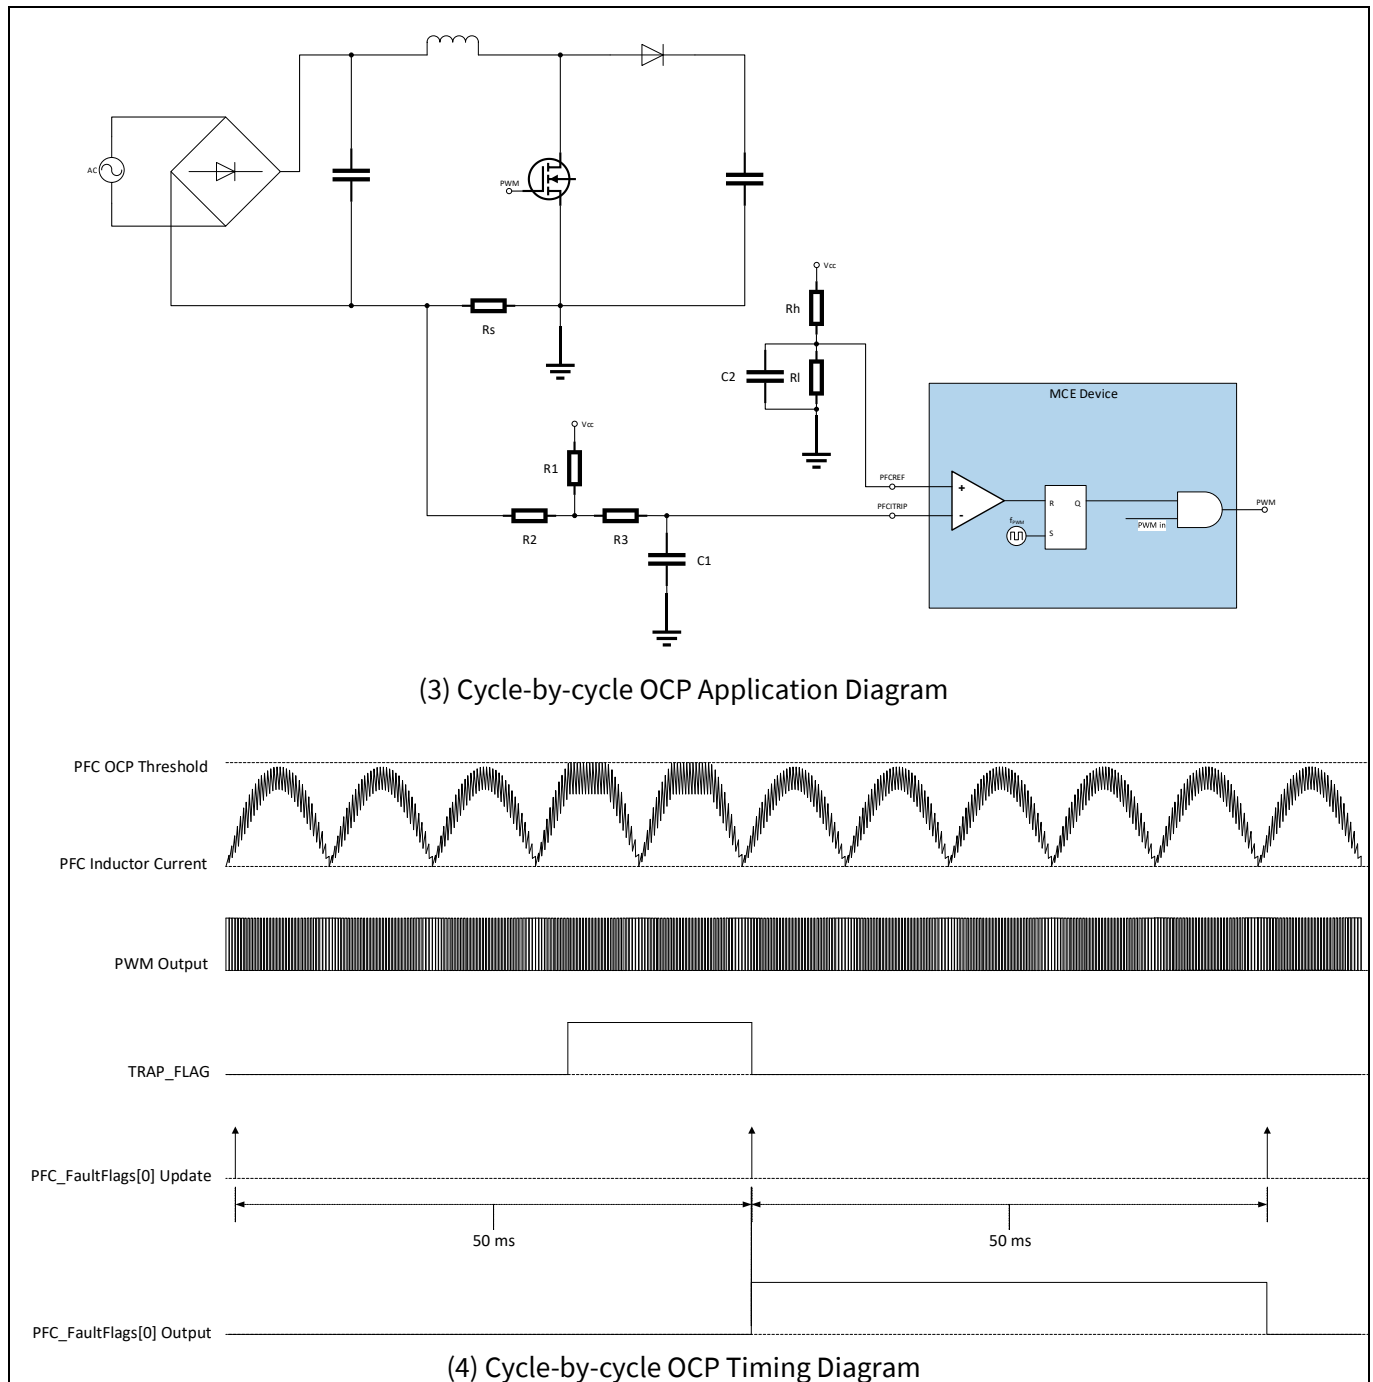

Figure 57 PFC Gatekill setup
As shown in the Figure 57 (2) and Figure 57 (4), the over-current tripping mechanism makes use of an internal comparator. The tripping level can be programmed externally using a voltage divider driven by a reference voltage whose output is connected to PFCREF pin. The calculation of OCP tripping level is shown below.
For latch-off OCP option as shown in Figure 57 (1), an internal configurable digital filter is available to avoid any high frequency noise. The customer can configure the gatekill response time by adjusting the value of
The filter timer is configured to be level triggered by the internal comparator output. As shown in Figure 57 (2), when the inductor current goes higher than the specified PFC OCP threshold, the internal comparator output goes logic HIGH. As a result, the timer starts counting. If the comparator output voltage level changes down to logic zero, then the timer gets reset. If the over-current condition is persistent until the timer counts to 'PFC_GateKillTime', then the PWM outputs go into the programmed passive levels. This fault cannot be masked, so that it will be reflected in 'PFC_SwFaults' PFC variable, and the PFC state machine will shift to FAULT state, causing the PFC to stop running.
For cycle-by-cycle OCP option as shown in Figure 57 (3) and Figure 57 (4), when the inductor current goes higher than the specified PFC OCP threshold, the internal comparator output goes logic HIGH. As a result, the PWM output immediately goes to logic LOW, and stays LOW until the end of this PWM cycle even if the inductor current goes below the PFC OCP threshold. At the beginning of the following PWM cycle, if the inductor current is below the PFC OCP threshold, then PWM output resumes. If the inductor current is still higher than the PFC OCP threshold, then the PWM output remains logic LOW. When an OCP fault occurs, an internal TRPF bit is set automatically and requires manual reset. Every 50 ms, the value of TRPF bit is read and copied to bit 0 of 'PFC_FaultFlags' variable. Then TRPF bit gets cleared. If the OCP fault still remains, then the TRPF bit won't be cleared successfully. If a PFC OCP fault occurs for just one PWM cycle, then bit 0 of 'PFC_FaultFlags' variable will be set to 1 for a duration of 50 ms. When cycle-by-cycle OCP option is selected, if an PFC OCP fault occurs, the PFC state machine remains in RUN state, and bit 0 of 'PFC_SwFaults' variable doesn't get set. Users may read the value of bit 0 of 'PFC_FaultFlags' to find out the occurrence of PFC OCP fault.